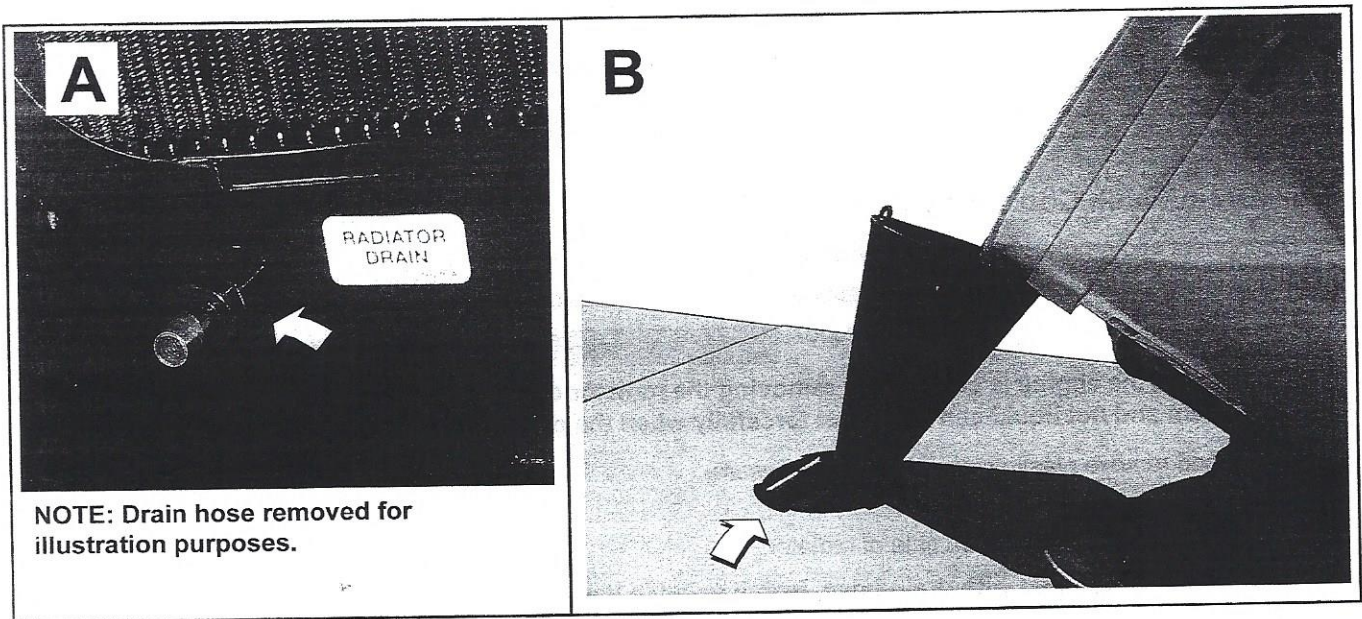

Figure 5-14. Drain/Fill Coolant System
14. Insert funnel into filler neck of radiator. See B of Figure 5-14